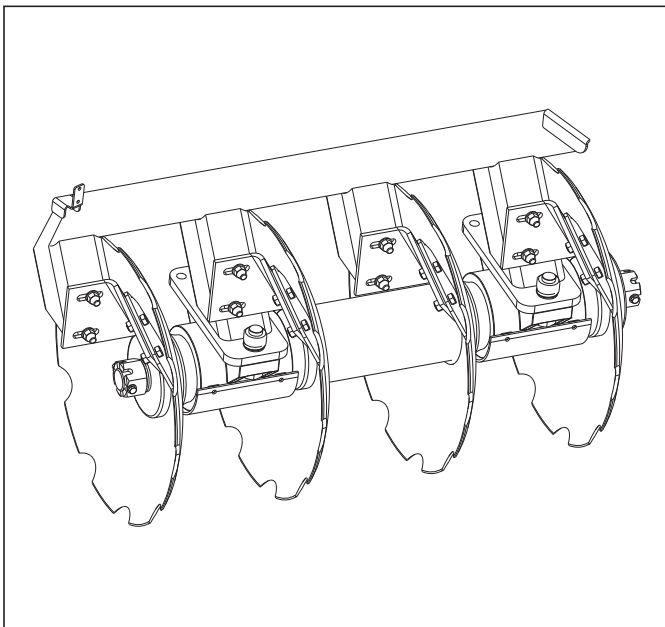

Figure 4-1: Disc Scraper to Disc Blade
5. Check disc scrapers for proper adjustment to the disc blade See Figure 4-1